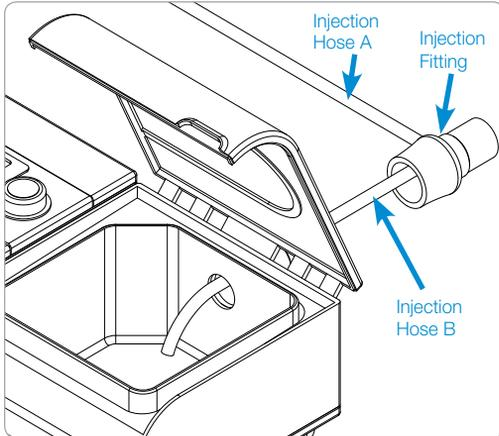

Figure 2. Connect the Injection Fitting
1. Position the Injection Fitting onto the port of your humidifier (where your hose was connected), allowing the smaller Injection Hose B to enter into the reservoir (figure 2). The end of the tubing should be positioned over the heat plate.